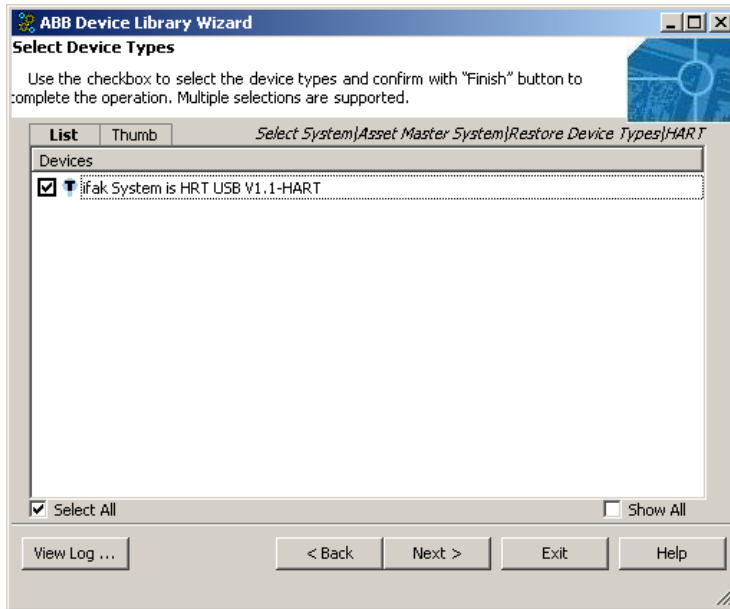

Figure 69. Select Device Object Types
5. In the resulting screen, similar to the one shown in Figure 69, select from the list of Device Object Types that are to be restored by checking the box against the corresponding device. Click on **Next** button to continue.